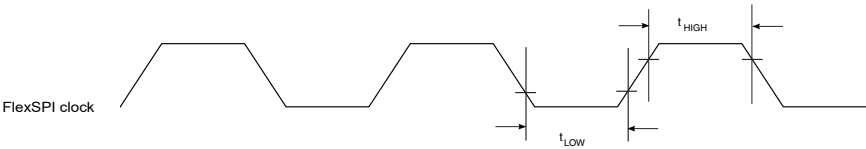
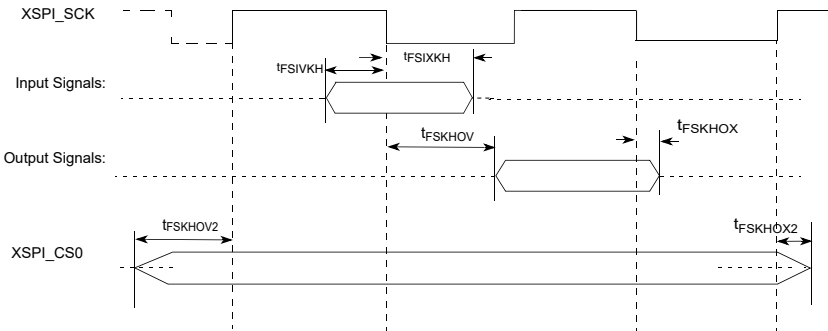
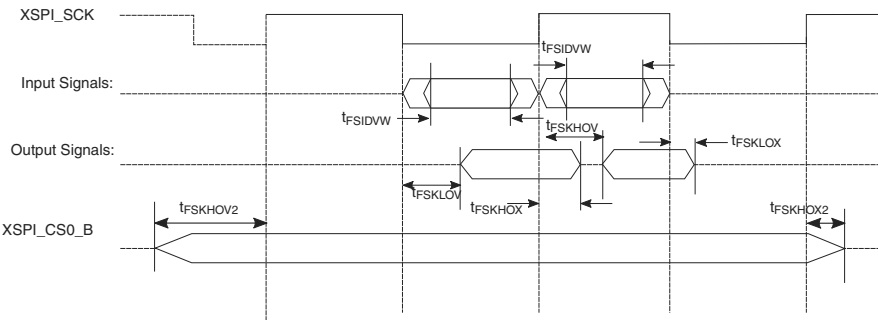

Figure 18. FlexSPI clock input timing diagram
Figure 19. FlexSPI SDR mode AC timing diagram
Figure 20. FlexSPI DDR mode 1 and 2 AC timing diagram
1. Refer the FLSHxyCR1 LA1234RM for more details, y: 1 or 2 5. See Figure 17. 6. See Figure 18. 7. See Figure 19. 8. T represents the clock period.
1. Refer the FLSHxyCR1 LA1234RM for more details, y: 1 or 2 4. See Figure 17. 5. See Figure 18. 7. For DDR, Unit Interval (UI) is half of period. For example, 5 ns for 100 MHz 8. See "Data Learning Feature" section in LA1234RM for details 9. See Figure 20. 10. T represents the clock period. 11. The minimum route length on the board is 0.5 inch and maximum length is 3 inches.